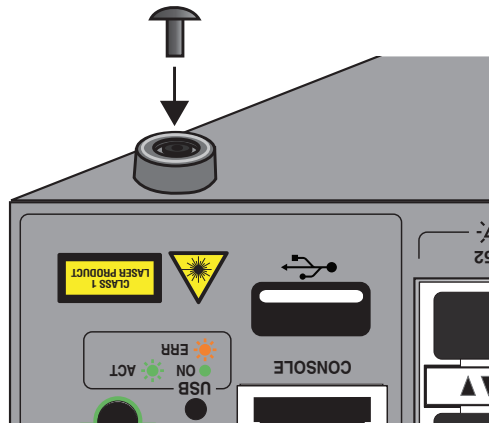

Figure 26. Inserting the Rivet into the Bumper Foot
4. Insert the rivet to secure the bumper foot to the base. Refer to Figure 26 on page 73.